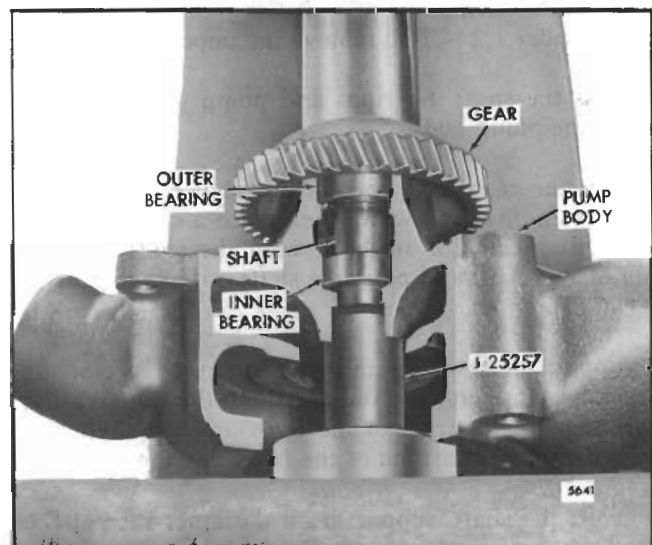

Fig. 7 - Pressing Gear on Pump Shaft
4. With gear installer J 25257 (Fig. 7) positioned on the impeller end of the shaft, place the gear between the shaft and the ram of the press. Press the gear on the shaft so it is flush with the end of the shaft.